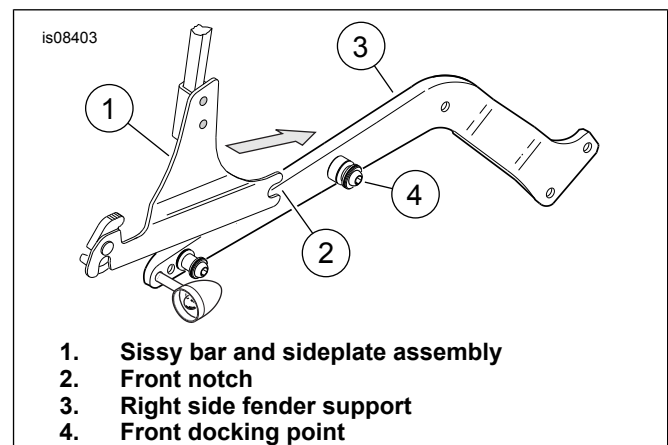
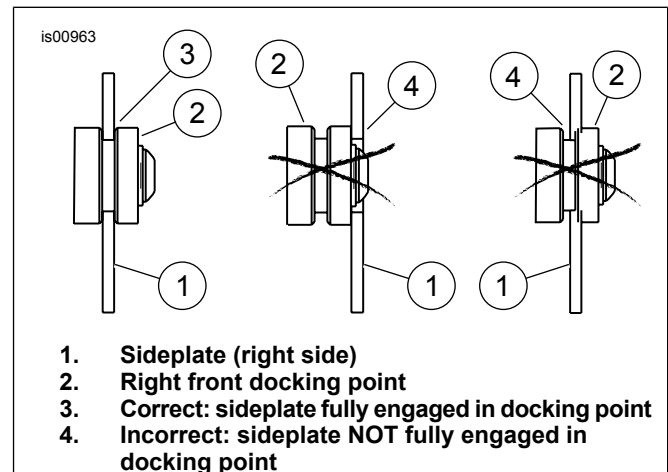

Figure 1. Insert Front Notches Into Front Docking Points
Figure 2. Sideplate Fit to Front Docking Points
1. See Figure 1. Standing behind the motorcycle. Place the left side and right side front sideplate notches (2) into the front docking points (4) on the fender supports (3). See Figure 2 for views of correct and incorrect sideplate engagement.